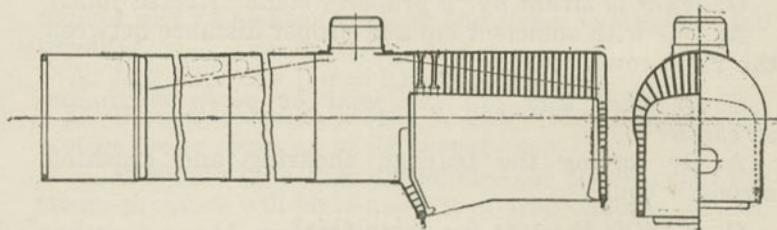

Fig. 27. Showing Fire Box with Radial Sling Stays.
A. Like the old ones, but with wider grate, as in Fig. 27, with 3,000 square feet of heating surface.
A. There is an inner and an outer shell, forming a double bottomless box of boiler-plate, and having in front, through both walls, a doorway closed by a furnace-door. The bottom is formed by the grate, upon which the fuel is placed, and below which is the ash-pan which receives the ashes that fall through the grate, and which is supplied with suitable dampers to regulate the amount of air admitted under the grate. The top of the fire-box inner wall is usually flat, and is called the crown-sheet; the top of the outer shell or wall over this is sometimes convex, sometimes flat—usually the former. (See Figs. 27, 28, 29, 30 and 31.)